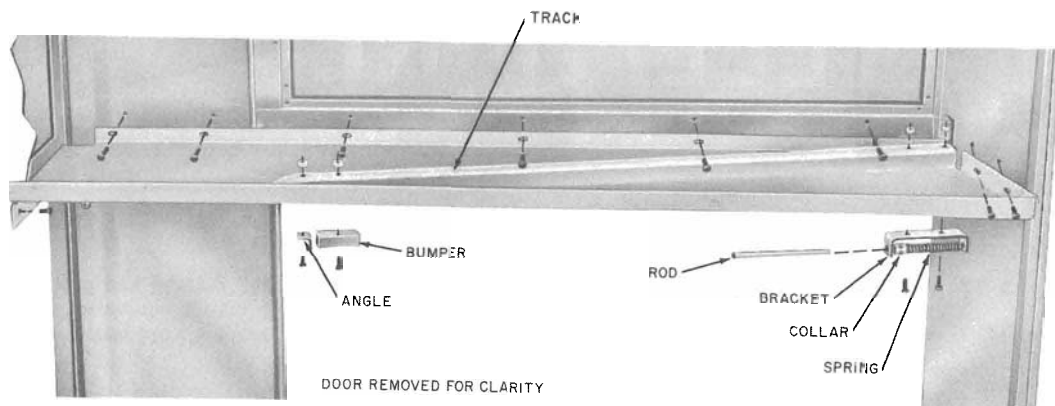

**Fig. 25—Installation of Top Hinge Assembly**
- (1) Check if booth is level.
- (2) Check hinge wear. Clearance between hinge barrels should not exceed 1/16 inch; gauge by eye. Replace worn hinges.
- (3) Check spring of top hinge assembly. Replace if defective (Fig. 25). Replace all earlier type assemblies with the new top hinge assembly per Fig. 25.
- (4) Check rubber door-frame bumpers. Replace if worn or missing.